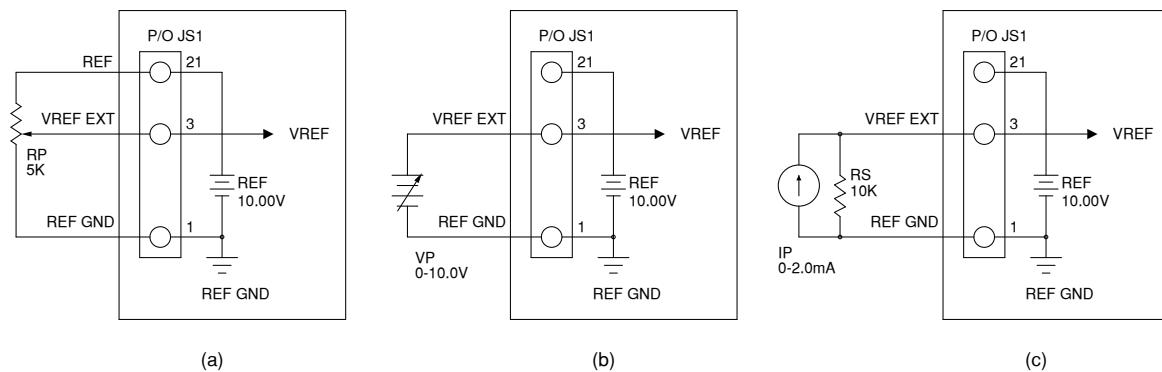

Figure 3.24. External (a) resistive, (b) voltage, and (c) current programming
*Figure 3.24, “External (a) resistive, (b) voltage, and (c) current programming”* illustrates the three alternative sources for programming the voltage set point. Similar methods apply to programming set point current, over voltage trip, and over current trip.